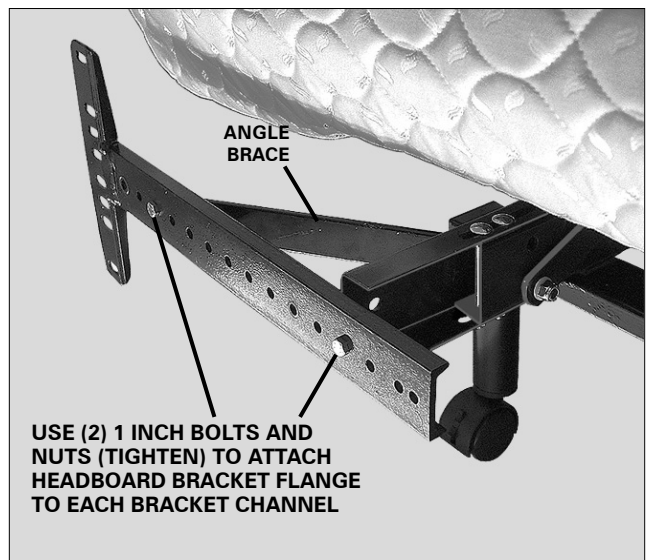

FIGURE 10: Headboard bracket flange installation (attach one flange to each of the headboard bracket channels).
- c. Attach one headboard bracket flange to one of the bracket channels with (2) bolts/nuts. (FIGURE 10) Tighten bolts. Repeat procedure to attach the other headboard bracket flange.